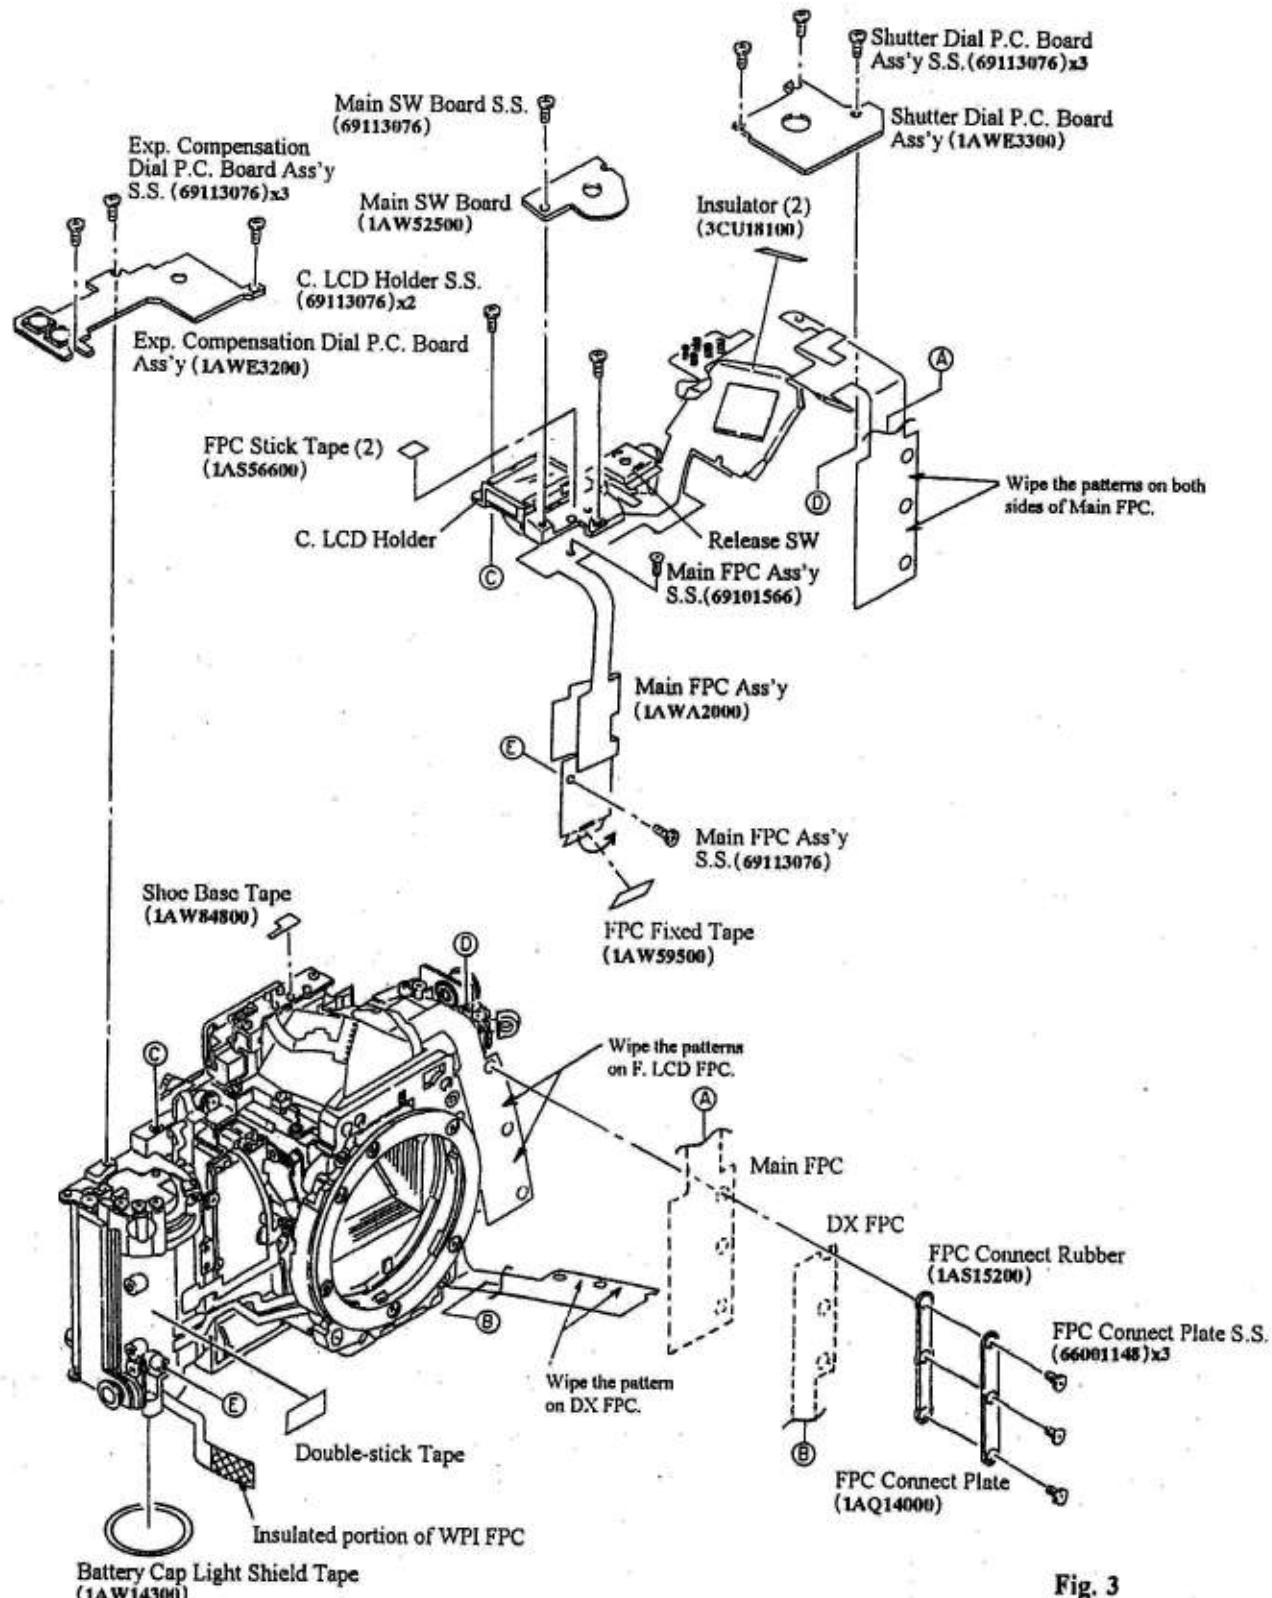

Fig. 3
(See Figs. 3 and 4) (Bottom Left of the Body)
- e) With lens cleaning paper with ether alcohol, wipe the connector patterns on both sides of the Main FPC Ass'y, the connector pattern on the F. LCD FPC and the connector pattern on the DX FPC. (See Fig. 3).